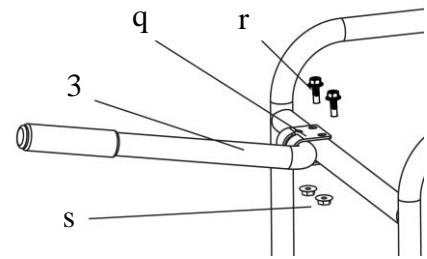

Fig. 4
- Position the handles in the bracket (q), then attach on the front side the cradle frame and secure them with supplied long screws (r) and nuts (s). See Fig. 4.